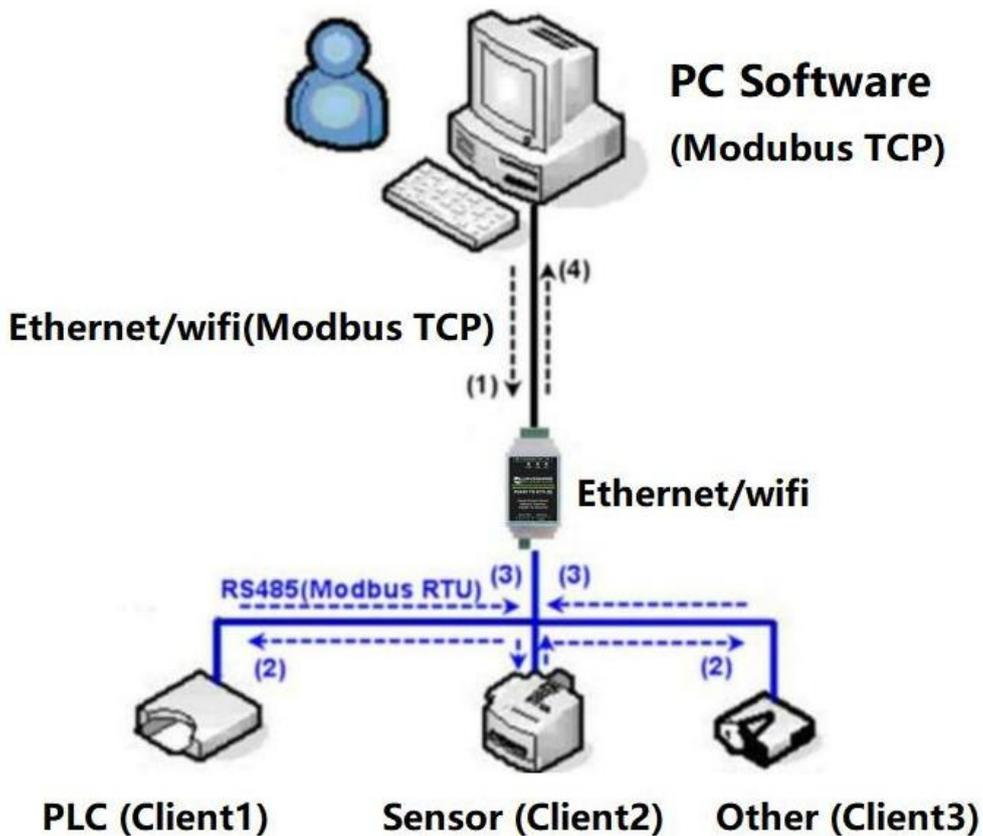

Figure 26 Working Mode of Storage Modbus Gateway
As shown in Figure 26: The general sending way of the Modbus TCP data is (1) (2) (3) (4). That is, the Modbus TCP command is converted into the corresponding command of Modbus RTU at first, the device responds to the Modbus RTU command to the Modbus gateway, and then the Modbus gateway is converted to Modbus TCP again and sent to the monitoring host computer.